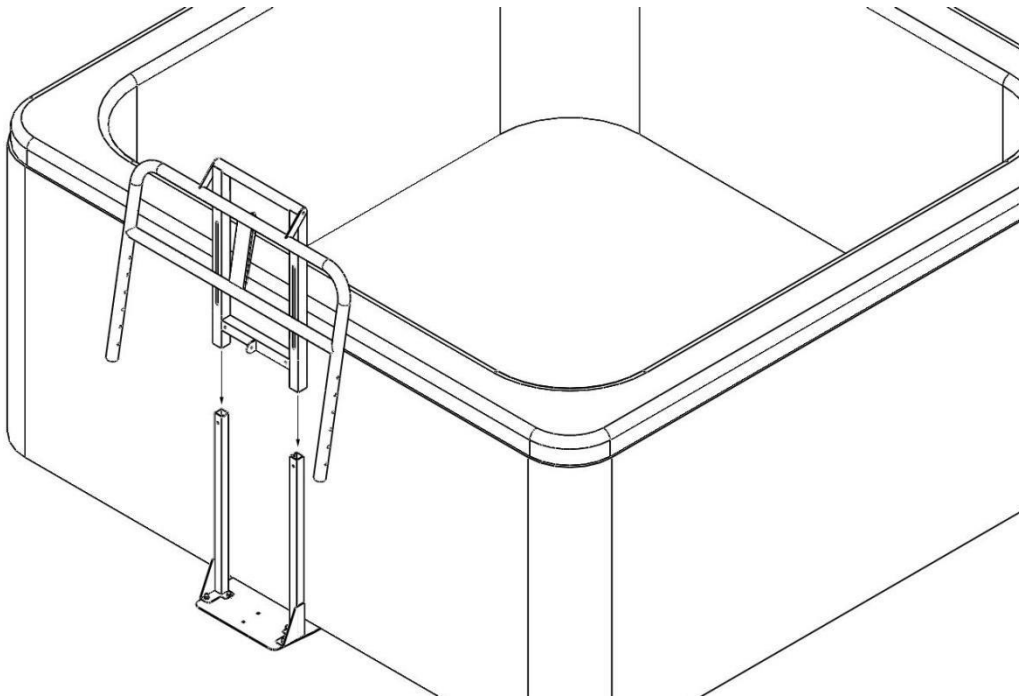

Figure 4
4. Slide the legs of the ccAA Main Unit/ccEE Pivot Arm assembly over the ccGG Support Legs. See Fig 4.